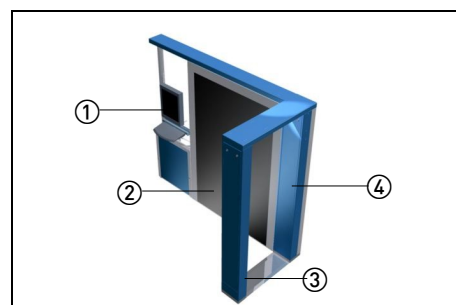
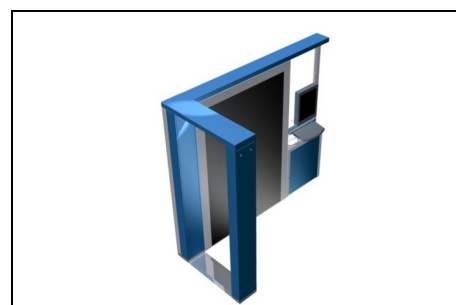

Fig. 1: Main components of the eqo system
Fig. 2: Left-hand version of the eqo system
The system consists of three main modules (see Fig. 1), the local operator station ①, the flat scanning panel ②, and an entrance arch ③ containing the transceiver, digital receiver and the power supply. The arch is attached at right-angles to the end of the flat scanning panel.
Two different variants exist, a left-hand and a right-hand version. The variants differ in the position of the flat scanning panel ② which can be attached on either side of to the power supply pillar ④. Fig. 1 shows the right-hand version of the eqo, Fig. 2 the left-hand version. The right-hand version is defined as the configuration where the flat scanning panel is on the right-hand side of the person who will be scanned as they enter the system through the arch, and vice-versa for the left hand version.